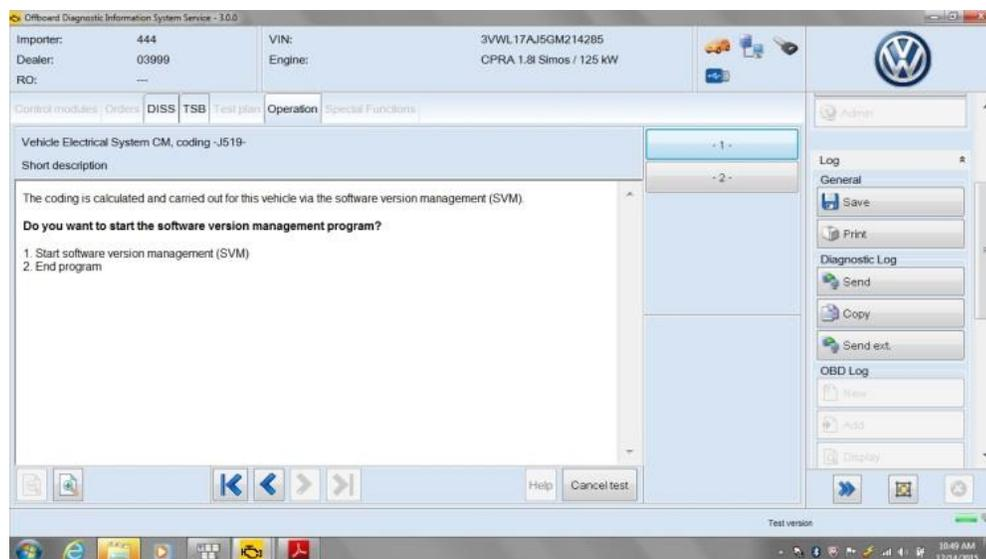

Figure 6
- Depress -1- (Start software version management (SVM)). (Figure 6)